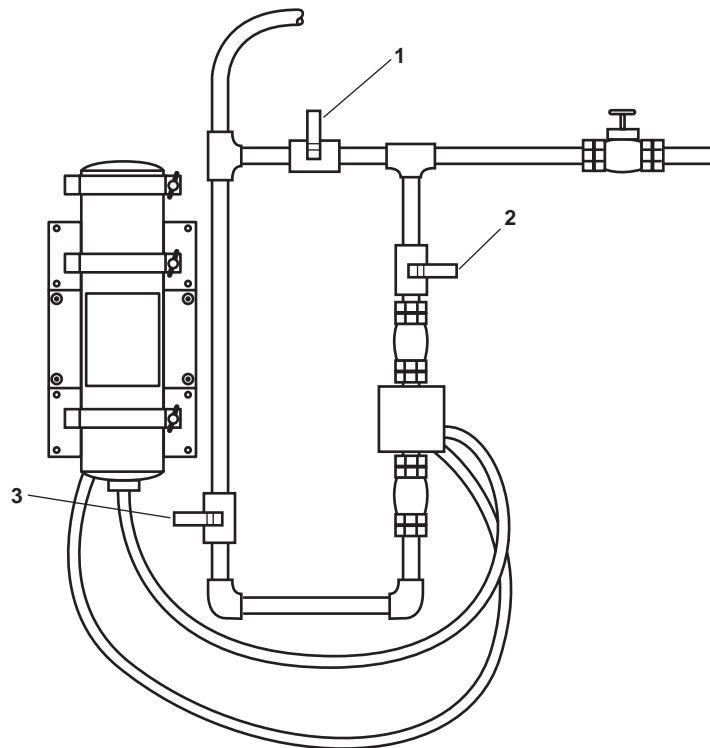

Figure 19. Brominator
1. OPEN PW-36, BYPASS-BROMINATOR valve (figure 19, item 1).
- a. PW-37, BROMINATOR INLET (figure 19, item 2).
- b. PW-38, BROMINATOR OUTLET (figure 19, item 3).